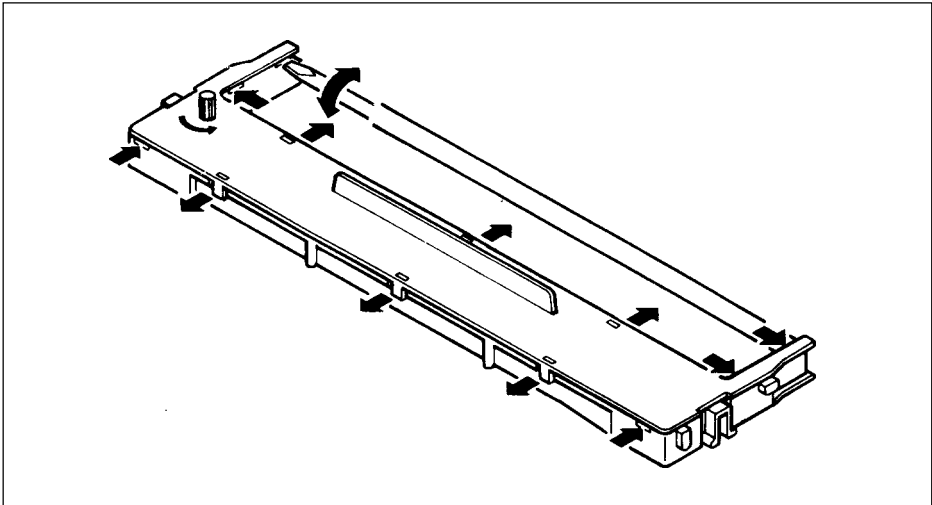

Figure 3-1. Use a screwdriver to pry open the cartridge.
3. Unhook the six tabs of the cartridge cover carefully (Figure 3-1).
- Using a screwdriver with a thin blade, pry open the cartridge cover. Figure 3-1 shows the numerous slots for inserting a screwdriver.